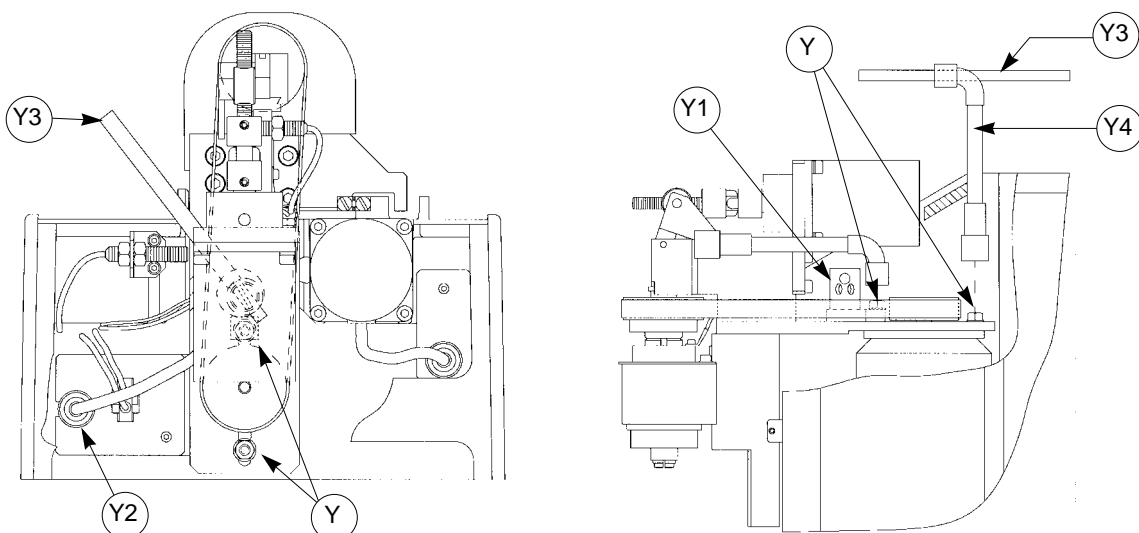

Fig. 26
- 3) partly loosen the two nuts (Y) securing the motor, using the special elbow wrench (Y4) and rod (Y3) (both provided), as shown in fig. 26;
- 6) detach the spindle release motor connector (Y2) (fig. 26);
- 10) adjust tension with the tension eccentric cam (Y1) then secure the cutting tool motor by tightening the two nuts (Y) (fig. 26).